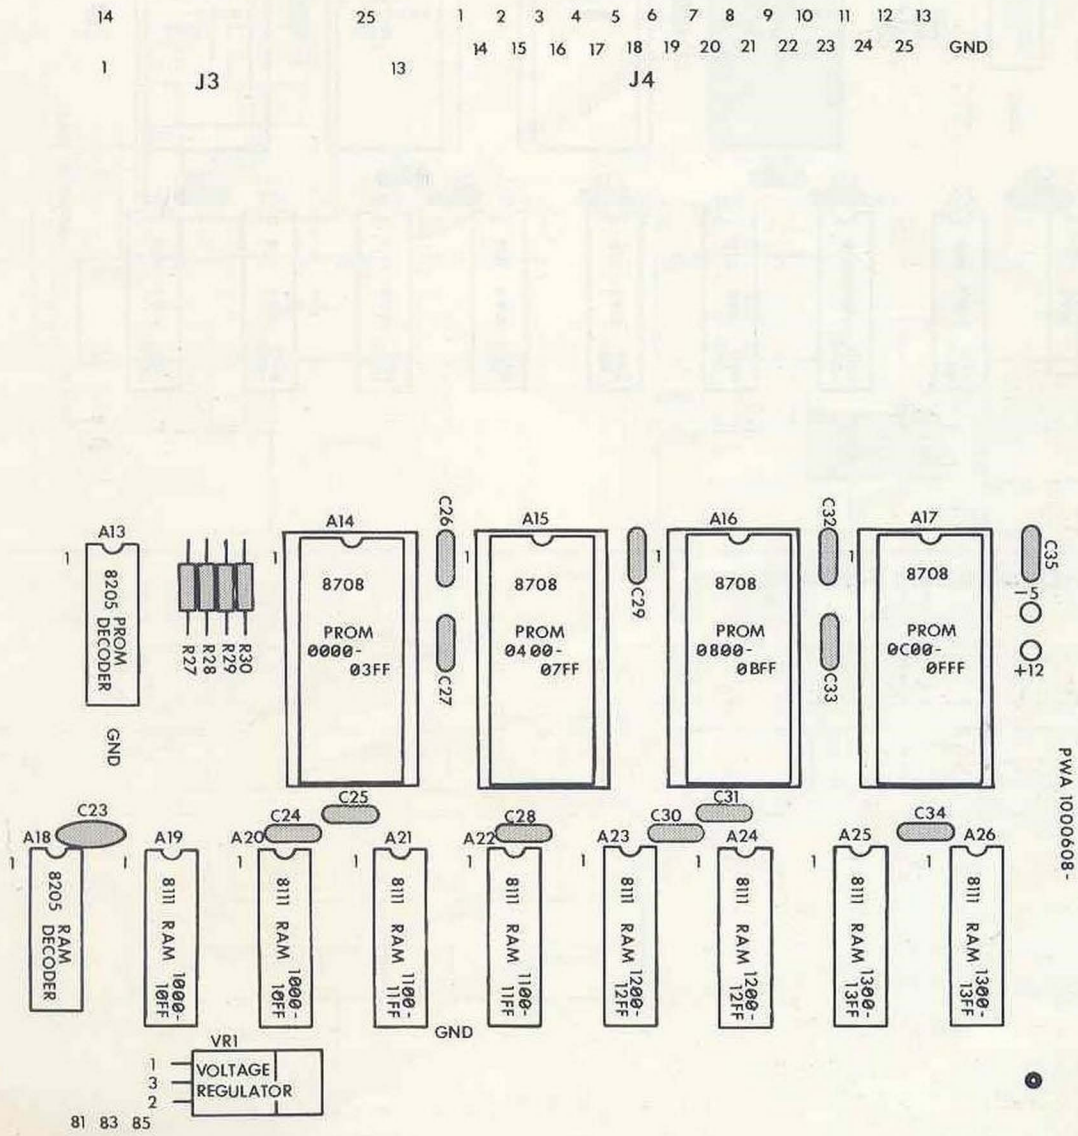

Figure 2-10. Construction Figure #8.
- Solder capacitors C24-C35 in place. All of these capacitors are 0.1 uf, 50V mono. Figure 2-10 shows the progress made in the last three steps.